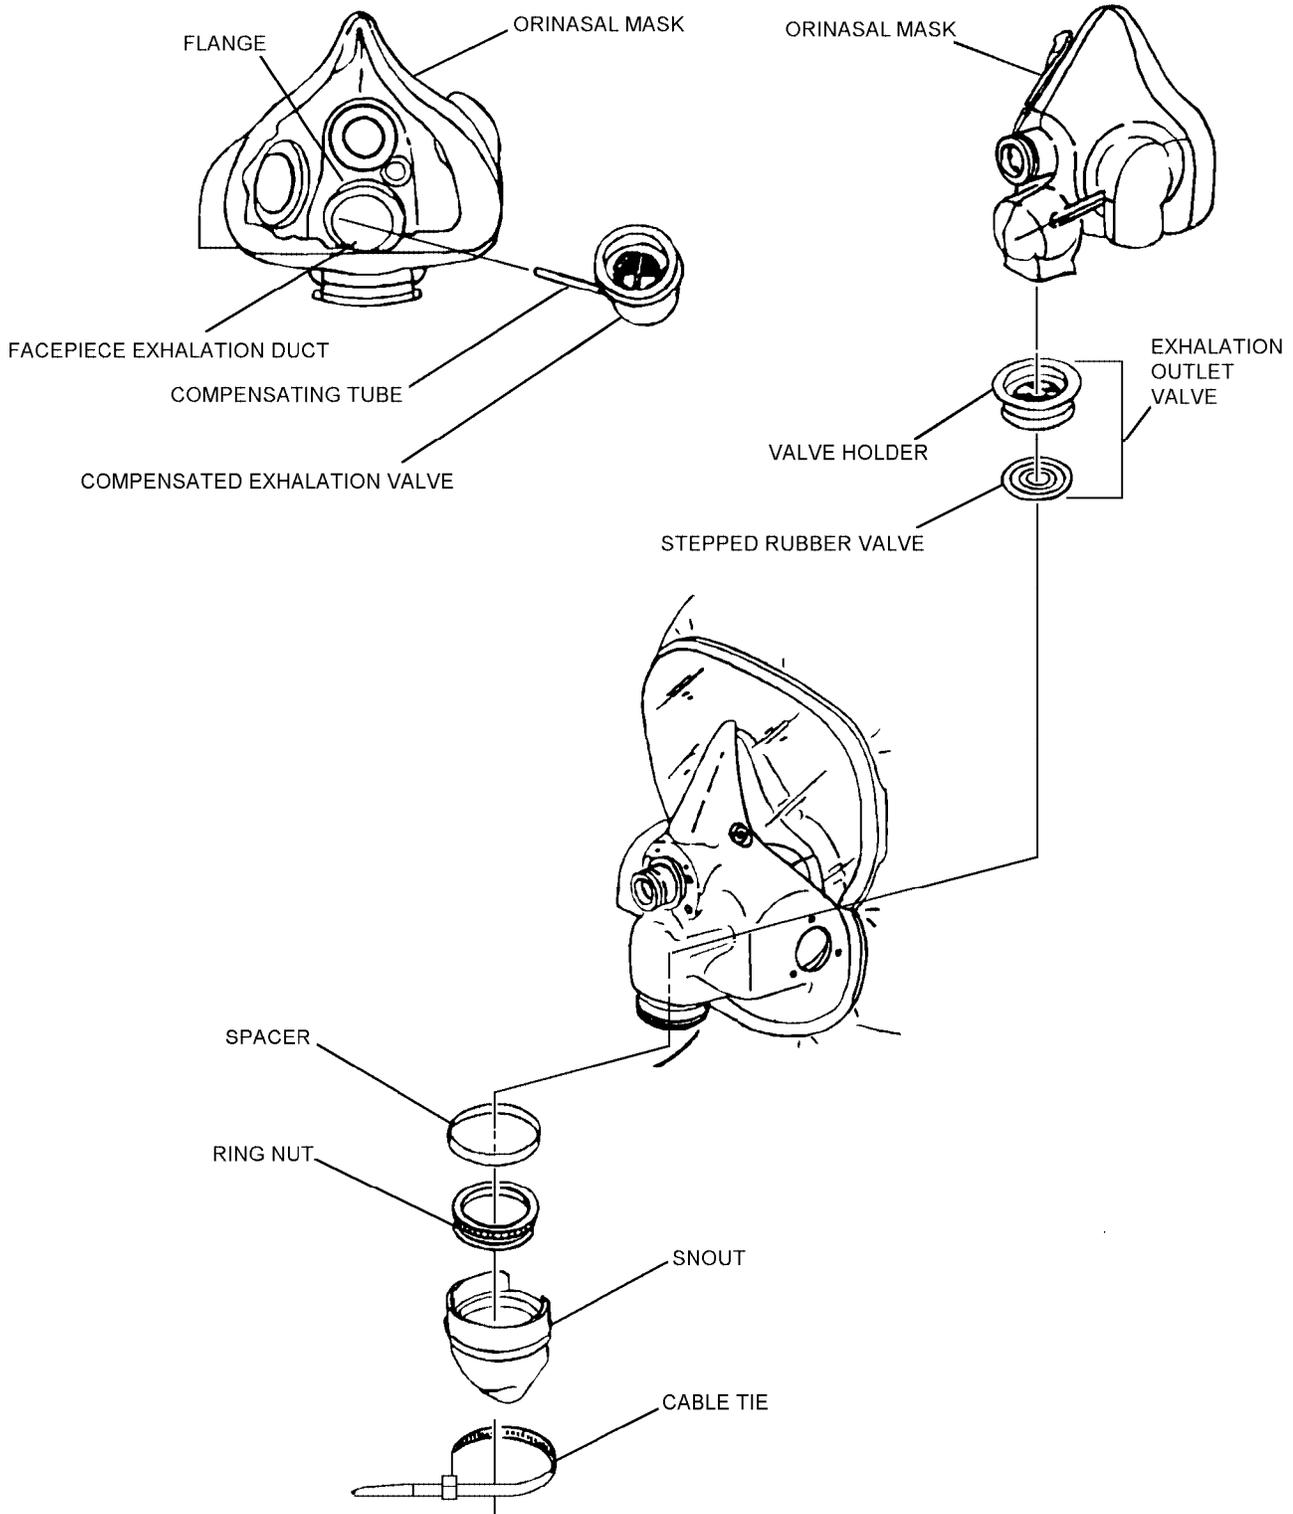

Figure 4-14. Compensated Exhalation Valve, Exhalation Outlet Valve and Snout
**4-17. Compensated Exhalation Valve.** The compensated exhalation valve (figure 4-14) is a molded plastic outlet valve mounted within the exhalation duct of the orinasal mask, with its compensated chamber connected to the orinasal mask inlet. The purpose of the compensated exhalation valve is to allow exhaled gases to be expelled into the environment when the pressure inside the orinasal mask is greater than the pressure in the outlet housing chamber.
**4-18. Exhalation Outlet Valve.** The exhalation outlet valve (figure 4-14) is a secondary valve fitted in the exhalation duct below the compensated exhalation valve. The exhalation outlet valve consists of a stepped rubber valve positioned on a valve holder which is secured by an externally-mounted spacer washer and ring nut. This secondary valve will prevent the inward leakage of contaminated air in the event of the compensated exhalation valve sticking in the open position. The small volume of air trapped between the compensated exhalation valve and the exhalation outlet valve will greatly reduce inward leakage in the event of pusher fan failure.
**4-19. Snout.** The snout (figure 4-14) is secured to the ring nut securing the exhalation outlet valve to the faceplate. The snout, made from material of low thermal conductivity, acts as a chamber to trap the warm exhaled air and prevents freezing of the exhalation valves. The snout opens to the environment by a downward facing slot.